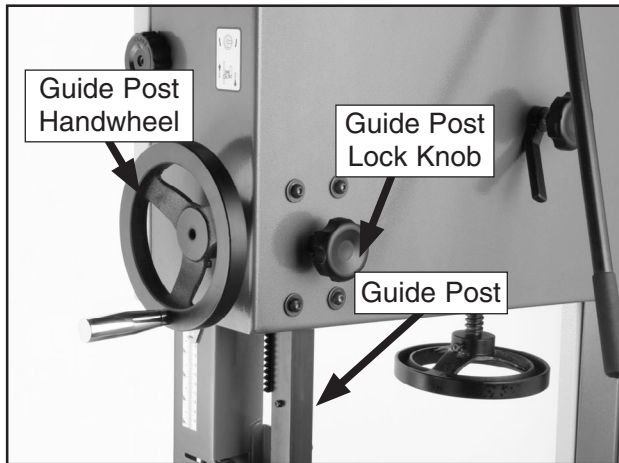

Figure 47. Guide post handwheel and lock knob.
The guide post, shown in **Figure 47**, connects the upper blade guide assembly to the bandsaw. The guide post allows the blade guide assembly to move up or down via a rack and pinion. In order to cut accurately, the blade guide assembly must be no more than 1" from the top of the workpiece at all times—this positioning provides the best support for the blade.
2. Loosen the guide post lock knob shown in **Figure 47**.